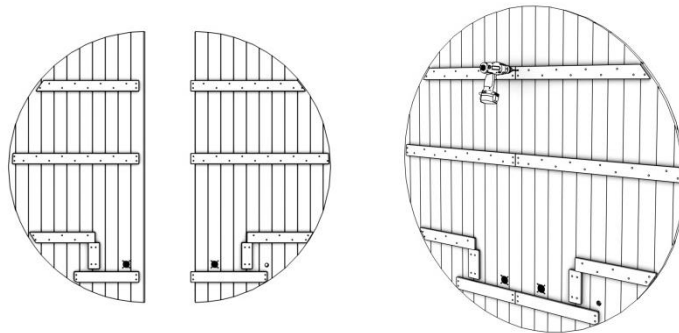

figure 5a
A. First, locate the two pieces that make up the rear wall panel. Use the provided screws to attach the two rear wall pieces together. See figure 5a.